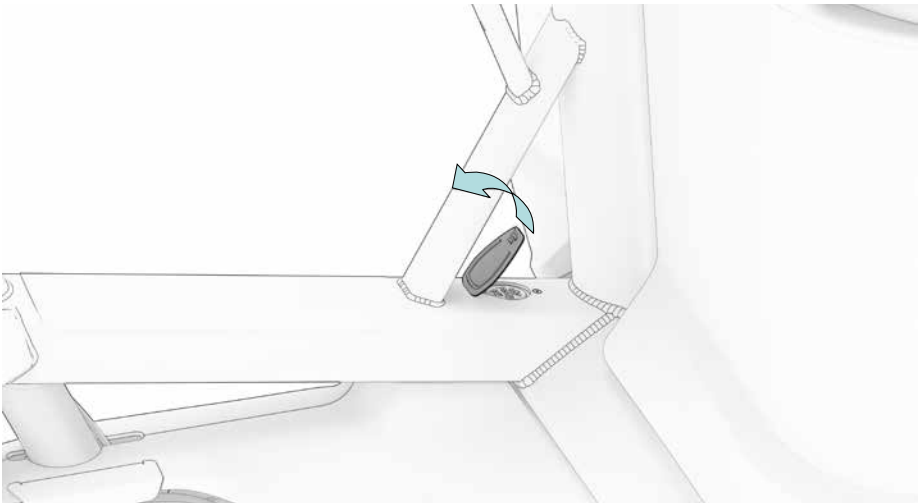

Fig. 25
2. Open the dust cap of the charging port (Fig. 25) and connect the cable of the charger to the charging port.